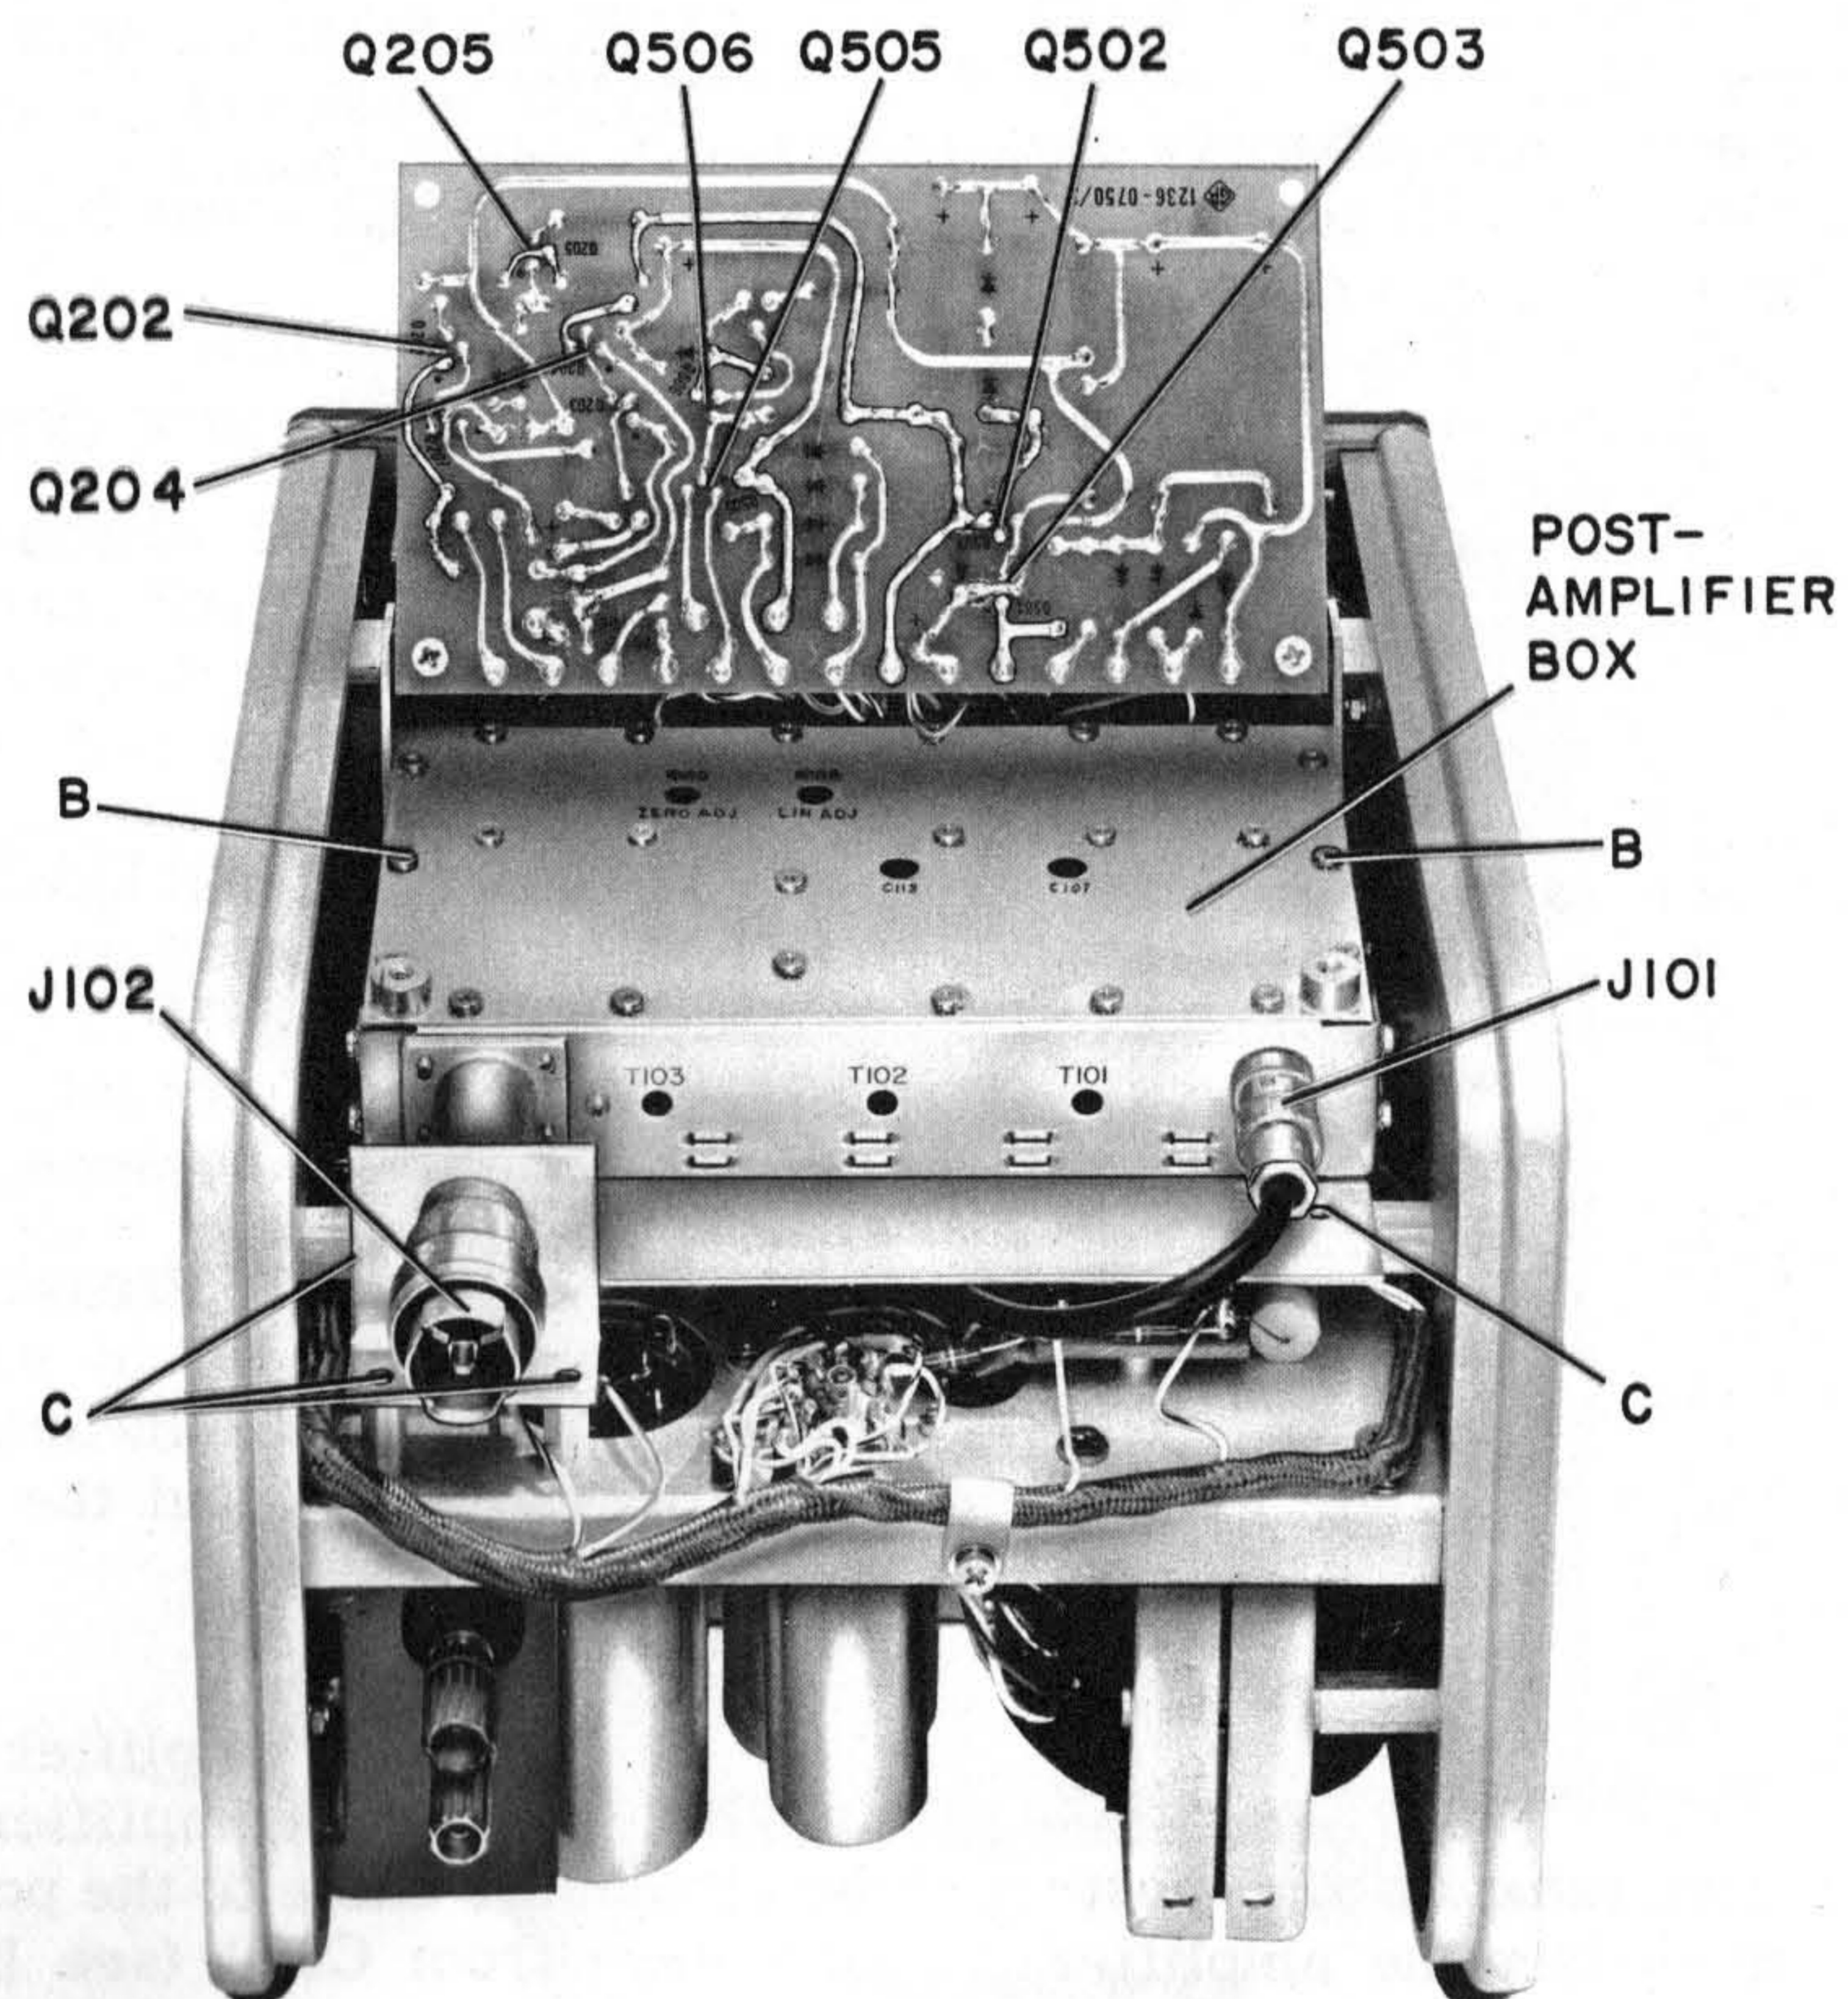

Figure 5-4. Rear view of 1236 with dust cover removed and the power-supply etched-board pivoted to a vertical position.
- a. Disconnect the attenuator from the postamplifier input, J101, Figure 5-4 (BNC connector at the rear of the postamplifier box). Connect the signal generator to the postamplifier input using the GR874/BNC Adaptor. Set the generator frequency to 30 MHz.
- a. Swing the power-supply etched board to its vertical position. Connect the sweep generator to J101 (see Figure 5-4) at the rear of the postamplifier box. Set the 1236 METER SCALE switch to NORMAL. Adjust the frequency to 29 MHz and increase the generator output until an upscale reading on the amplifier is obtained. Adjust T103 for a maximum meter deflection (use slotted alignment tool*).
- d. Align the response with T101, T102, C107, and C113, (see Figure 5-4) if necessary. C107 and C113 determine the Q's of the two tuned circuits and the gain of both stages. T101 and C107 affect the res-
a. Remove the oscilloscope connection and set the generator frequency to 30 MHz. Turn the amplifier GAIN control fully counterclockwise and set the generator output to zero. Set the amplifier meter to zero, using the ZERO ADJ control (R120, Figure 5-4).
b. Increase the generator output to obtain a full-scale reading on the amplifier. Reduce the output by 10 dB. Set the LIN ADJ control (R122, Figure 5-4) for a 0-dB meter reading on the amplifier. Increase the signal level by 10 dB and readjust the generator output for a full-scale reading on the amplifier. Observe the 0-dB position again and repeat the LIN ADJ adjustment until the 0-dB reading indicates no visible error.
a. Connect the signal generator to the post-amplifier input (J101, Figure 5-4). Set the amplifier METER SCALE switch to NORMAL. Set the generator frequency to 30 MHz and increase the generator output
a. Connect the attenuator cable to the BNC jack (J101, Figure 5-4) at the rear of the postamplifier box. Connect the signal generator to the 50- Ω side of the 50 Ω - 400 Ω matching pad. Connect the 400- Ω side of the pad to the input of the 1236.